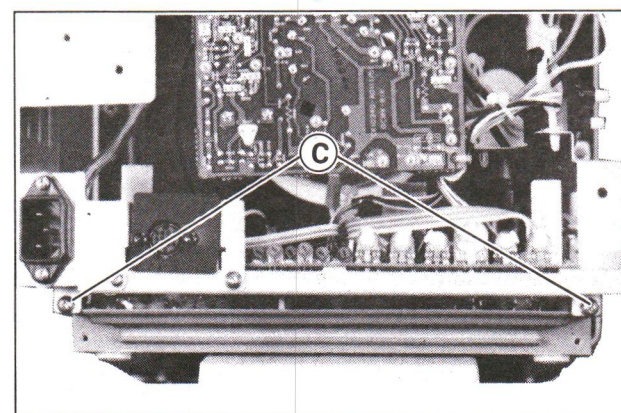

Fig. 3
2. Remove the two screws marked (C) in Fig. 3.